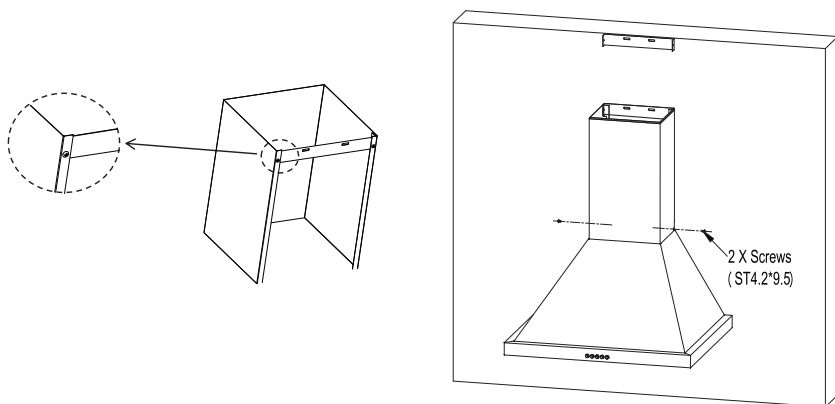

Fig.8
- Fix a Chimney fixing bracket onto the Lower Decorative Chimney with 2 screws (4.2x 9.5) ;Fix the Lower Decorative Chimney to the hood body with 2 screws (4.2 x 9.5). See Fig.8.